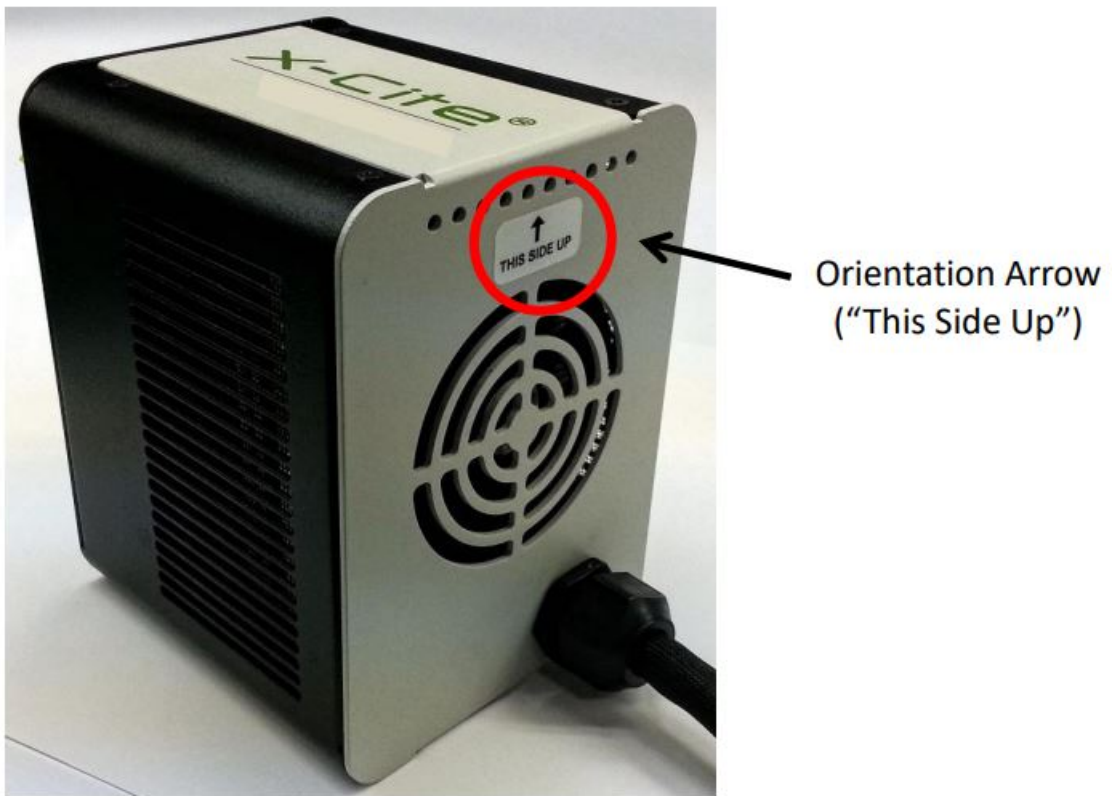

Figure 5 LED Head and Arrow in Correct Position
- Olympus – Tighten the hex fastener(s) with the 3mm Hex Tool. Depending on the model, there may be one (1) fastener on the side, or two (2) fasteners located at the 10:00 and 2:00 positions. Note for IX3-RFAL use: the epi-light train aperture MUST be properly aligned before turning on X-Cite® mini+, or heat damage may result – see procedure in Olympus manual for assistance.
- Verify that the LED Head is oriented with the arrow label (rear side of the LED Head) is pointing up (see Figure 5).